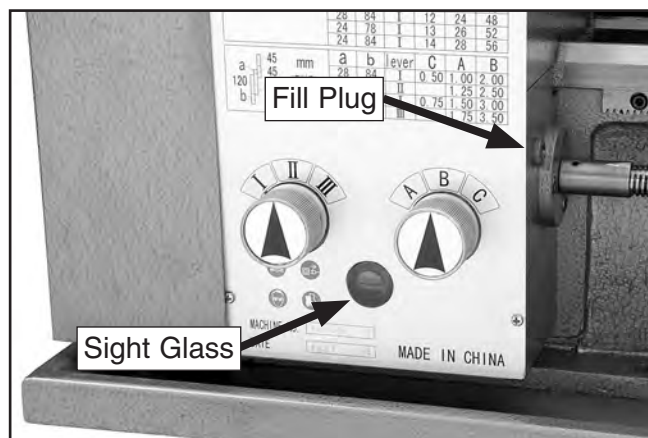

Figure 79. Feed rate gearbox oil reservoir sight glass and fill plug.
1. Check the oil reservoir sight glass shown in **Figure 79**. If the oil level is below the half-way mark, continue with the following steps to add oil.
3. Remove the reservoir fill plug (see **Figure 79**).